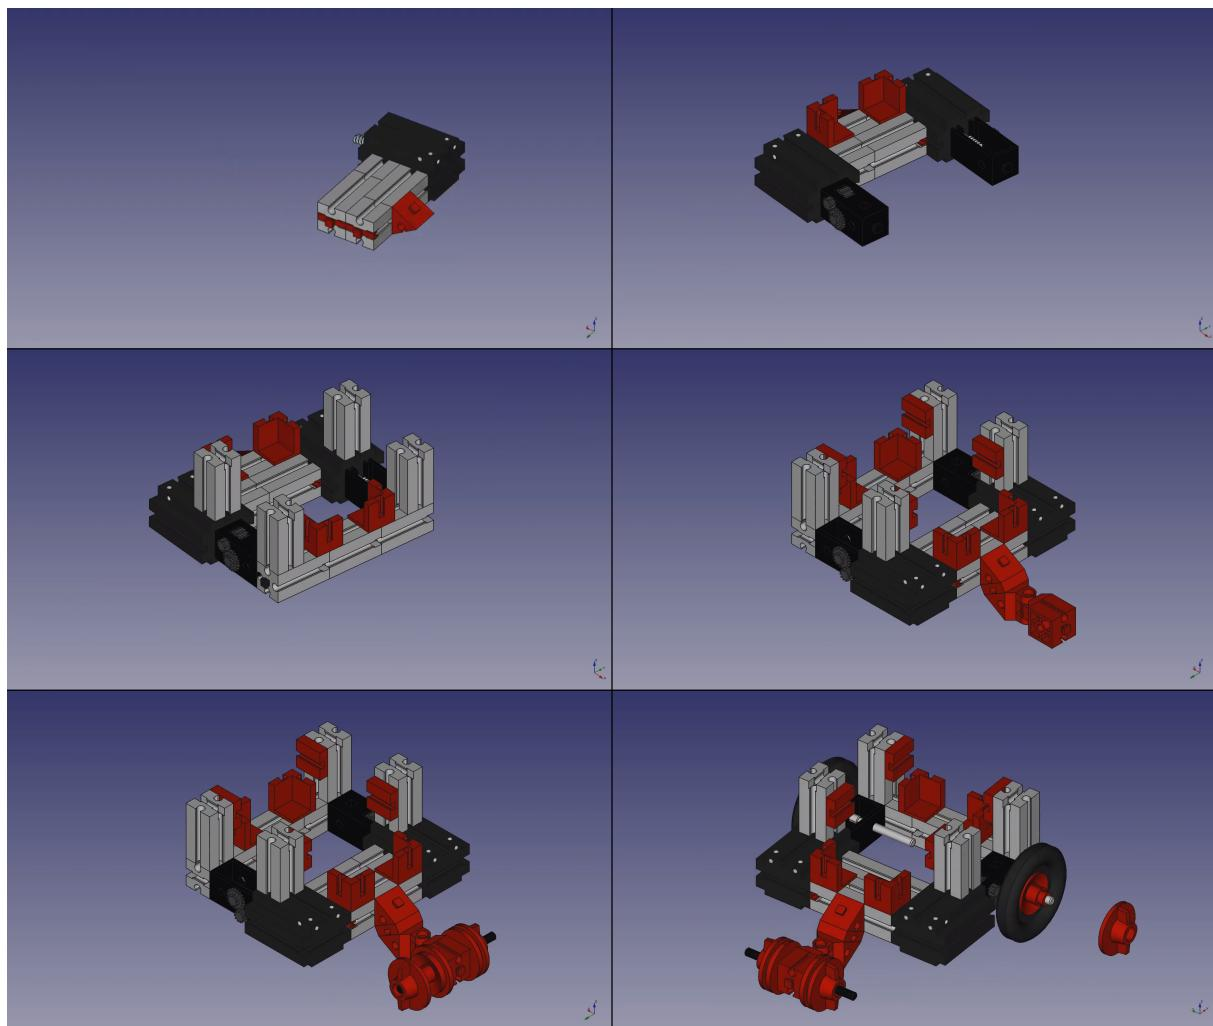

Figure 3.5: Construction sequences.
1. Construct the mobile robot according to this sequences on the fig. 3.5.